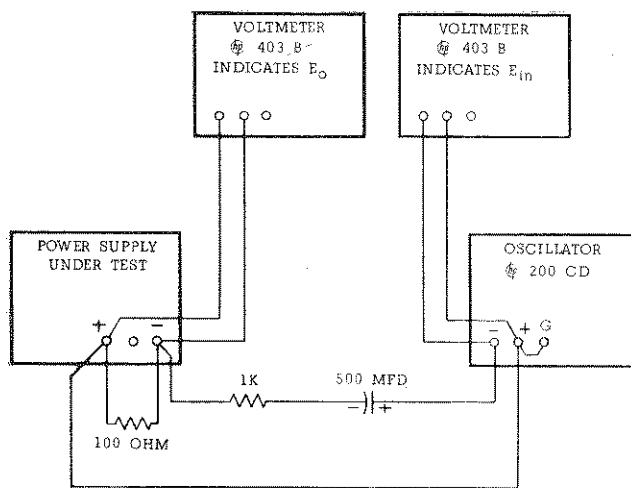

Figure 5-9. Output Impedance, Test Setup
- a. Connect test setup as shown in Figure 5-9.